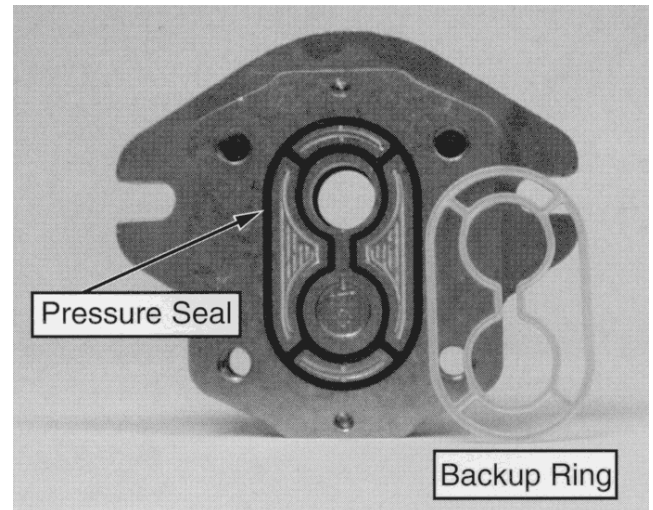

Figure 67
8. Carefully remove and discard O-rings, pressure seals and back-up rings (Fig. 67) from motor. Do not cause any damage to the machined grooves during the removal process.